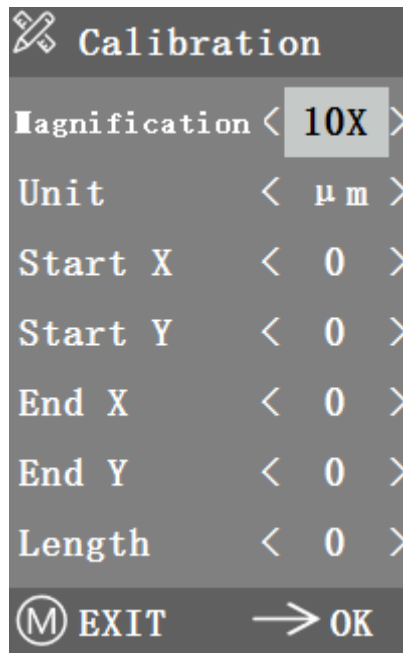

Figure 12-7
2. After entering the *Calibration* menu, it is shown in Figure 12-7.